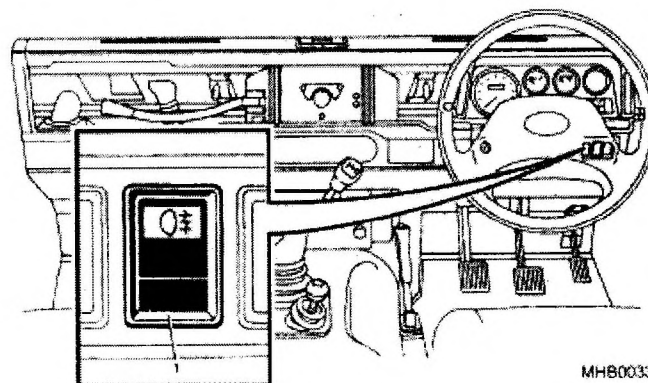

Fig 11 Rear fog guard light switch
25 The rear fog guard lights (Fig 11) are operated by a two-position, on/off rocker switch (1). It is located on the right-hand side of the instrument panel, next to the hazard warning light switch.